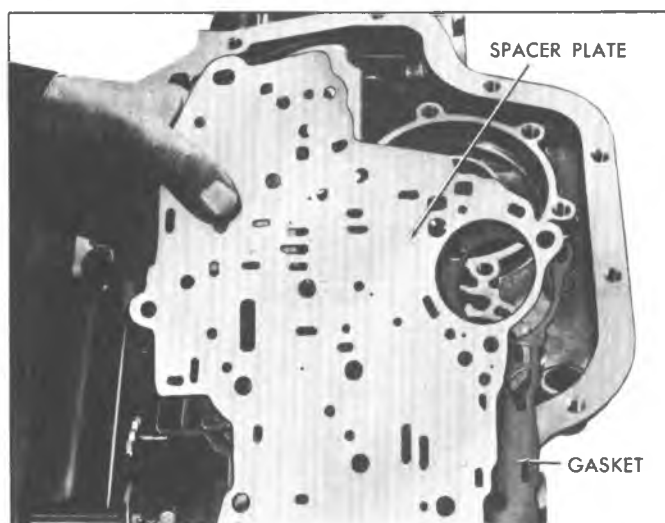

Fig. 143T--Installing Control Valve Assembly Spacer Plate and Gasket
3. Install control valve spacer plate-to-case gasket (gasket with extension for detent solenoid). Figure 143T.